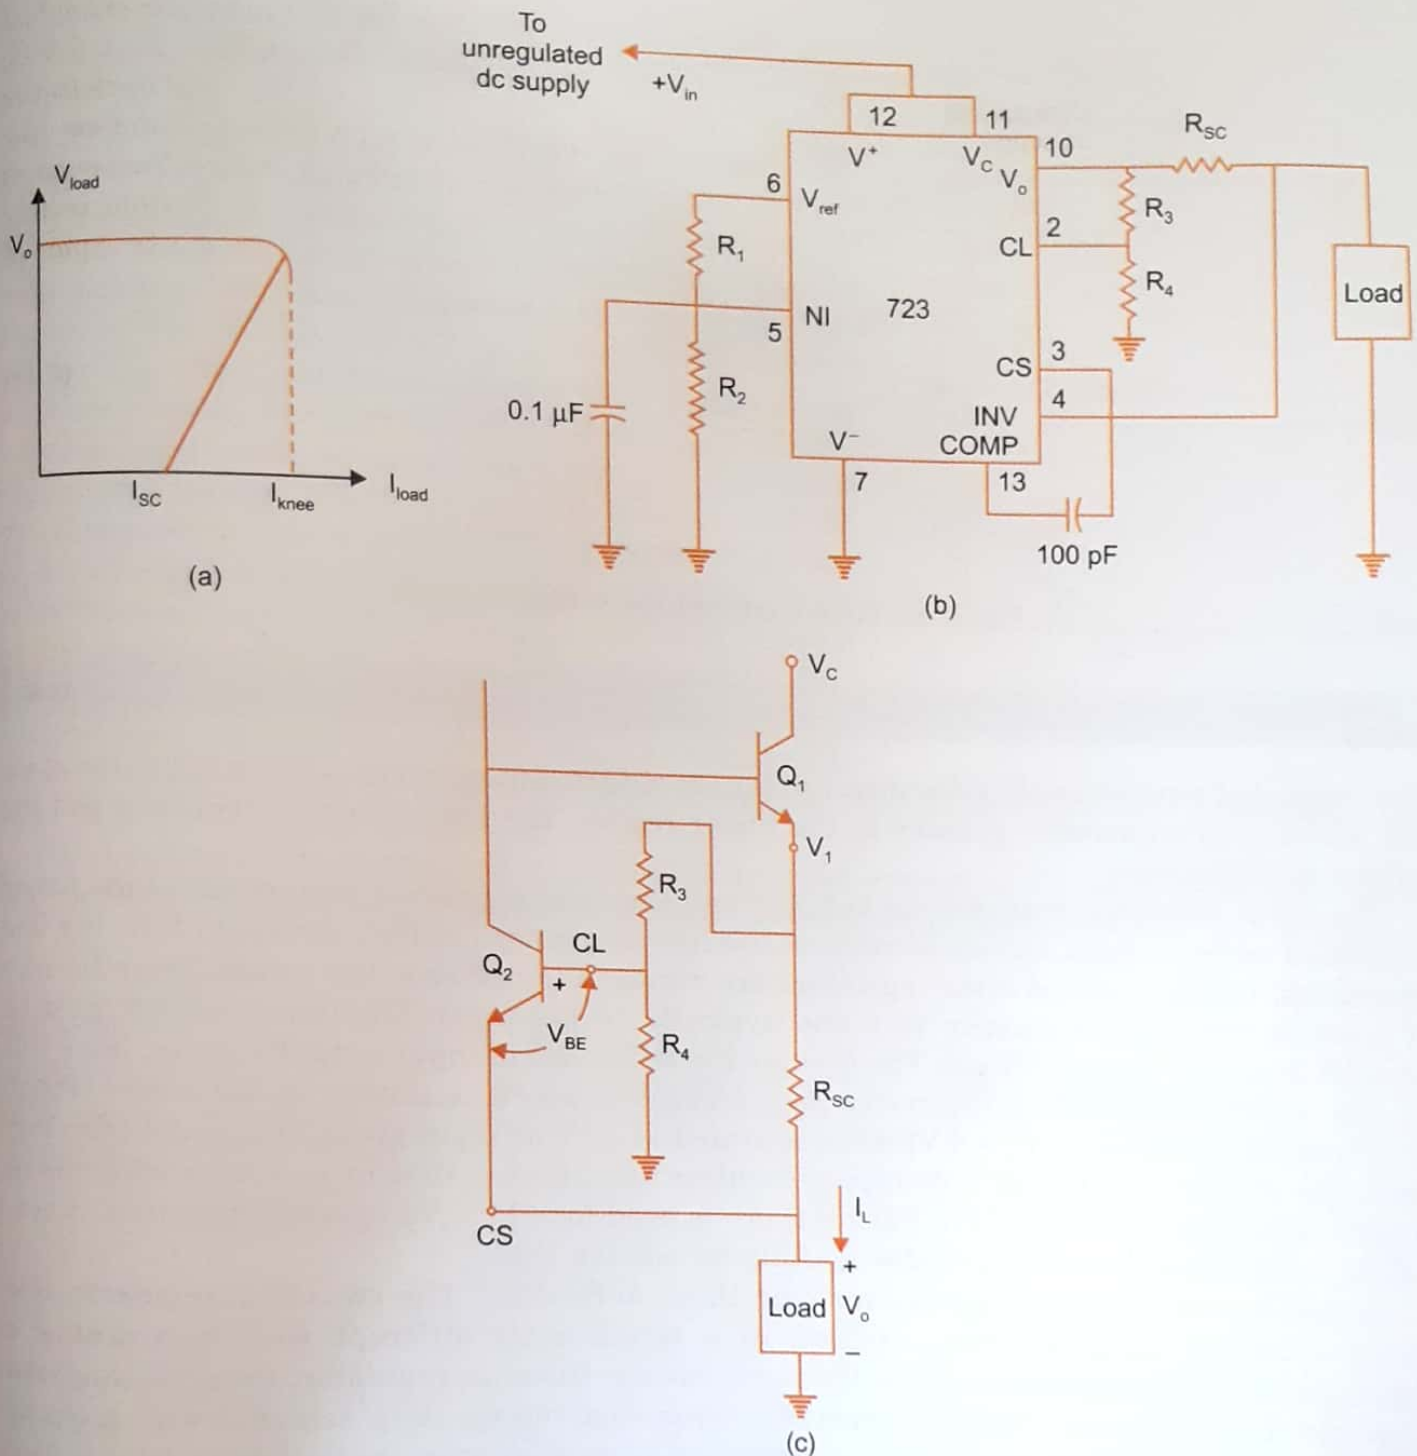
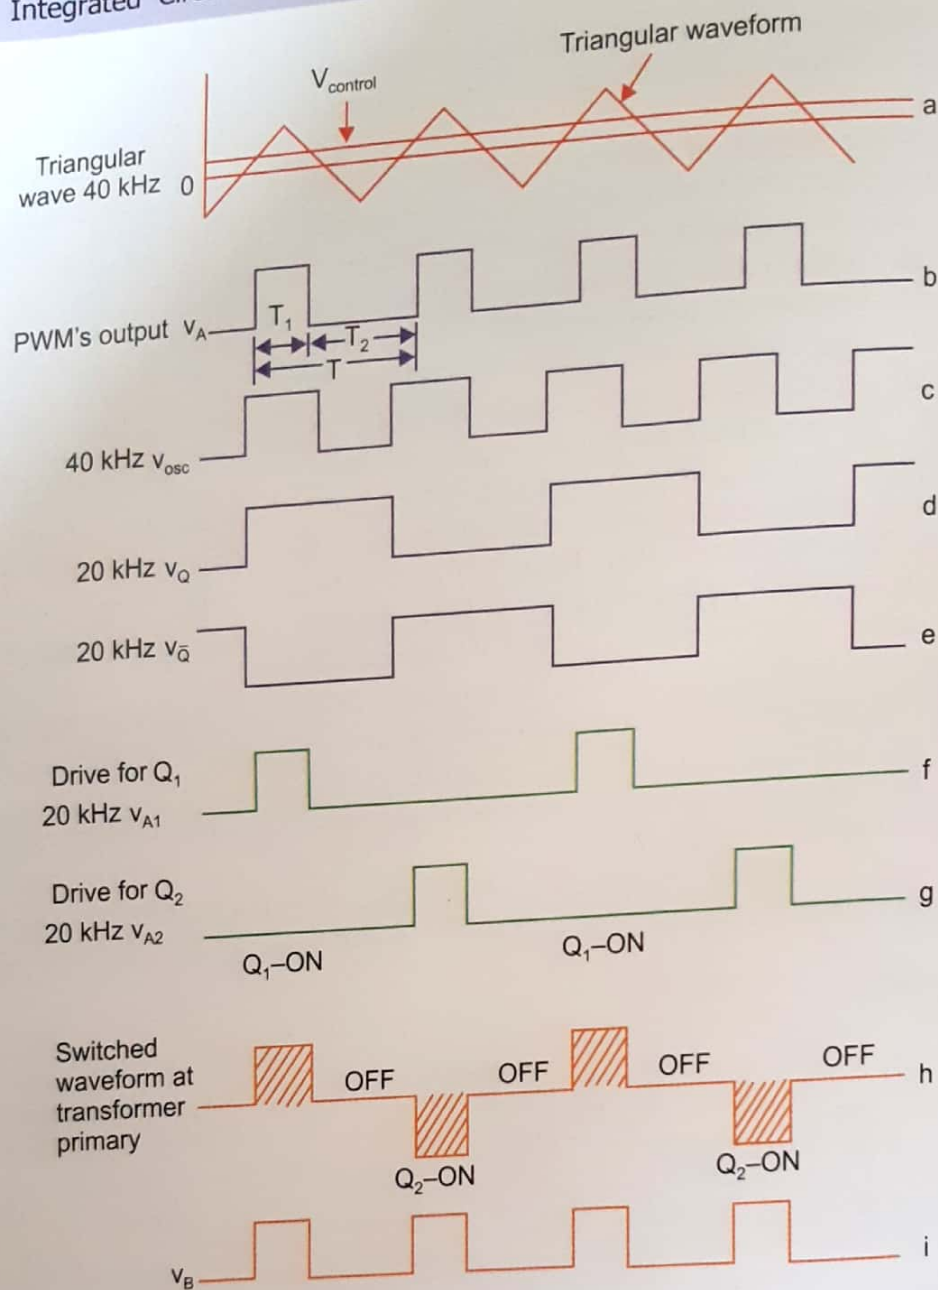

Fig. 6.10 (a) Current foldback characteristic curve (b) A low voltage regulator using current foldback (c) Current foldback (partial schematic)
Fig. 6.14 Switching power supply waveforms
Current foldback is the method used for this. Figure 6.10 (a) shows the current foldback characteristic curve. As current demand increases, the output voltage is held constant till a present current level (I_{knee}) is reached. If the current demand exceeds this level, both output voltage and output current decrease. The circuit in Fig. 6.10 (b) shows the method of applying current foldback. In order to understand the operation of the circuit, consider the circuit of Fig. 6.10 (c). The voltage at terminal CL is divided by R_3 – R_4 network. The current limit transistor Q_2 conducts only when the drop across the resistance R_{sc} is large enough to produce a base-emitter voltage of Q_2 to be at least 0.5 V. As Q_2 starts conducting, transistor Q_1 begins to turn off and the current I_L decreases. This reduces the voltage V_1 at the emitter of Q_1 and also the output voltage V_o . The voltage at the base of Q_2 (CL) will be $V_1 R_4 / (R_3 + R_4)$. Thus the voltage at the CL terminal drops by a smaller amount compared to the drop in voltage at CS terminal. This increases V_{BE} of Q_2 thereby increasing the conduction of Q_2 , which in turn reduces the conduction of Q_1 . That is, the current I_L further reduces. This process continues till $V_o = 0 \text{ V}$ and V_1 is just large enough to keep 0.5 V between CL and CS terminal. This point is I_{sc} and has been reduced by lowering both I_L and V_o .
$R_1/(R_1+R_2)$ is compared with a fixed reference voltage V_{ref} in comparator 1. The output of this voltage comparison amplifier is called $V_{control}$ and is shown in Fig. 6.14 (a). $V_{control}$ is applied to the (-) input terminal of comparator 2 and a triangular waveform of frequency 40 kHz (also shown in Fig. 6.14 (a)) is applied at the (+) input terminal. It may be noted that a high frequency triangular waveform is being used to reduce the ripple. The comparator 2 functions as a pulse width modulator and its output is a square wave v_A (Fig. 6.14 (b)) of period T ($= 40 \text{ kHz}$). The duty cycle of the square wave is $T_1/(T_1 + T_2)$ and varies with $V_{control}$ which in turn varies with the variation of v_o . The output v_A drives a steering logic circuit shown in the dashed block. It consists of a 40 kHz oscillator cascaded with a flip-flop to produce two complementary outputs v_Q and $v_{\bar{Q}}$ shown in Fig. 6.14 (d) and (e). The output v_{A1} and v_{A2} of AND gates A_1 and A_2 are shown in Fig. 6.10 (f) and (g). These waveforms are applied at the base of transistor Q_1 and Q_2 . Depending upon whether transistor Q_1 or Q_2 is *on*, the waveform at the input of the transformer will be a square wave as shown in Fig. 6.14 (h). The rectified output v_B is shown in Fig. 6.14 (i).
If there is a rise in dc output voltage V_o , the voltage control $V_{control}$ of the comparator 1 also rises. This changes the intersection of the $V_{control}$ with the triangular waveform and in this case decreases the time period T_1 in the waveform of Fig. 6.14 (b). This in turn decreases the pulse width of the waveform driving the main power transformer. Reduction in pulse width lowers the average value of the dc output V_o . Thus the initial rise in the dc output voltage V_o has been nullified.
So far we have discussed the operation of the SMPS. Now we shall be able to justify why SMPS has better efficiency than linear regulated power supply. We have noted that very high frequency signals (about 40 kHz or more) are being applied. The transistors Q_1 and Q_2 are acting as the switches and become alternately **on** and **off** at a frequency of 20 kHz (Fig. 6.14 (a)). Again the transistor Q_1 or Q_2 is **on** for very small duration and consumes negligibly small power since $V_{CE(sat)}$ (0.2 V) is small. It may also be noted that the high operating frequency used for the switching transistors allows the use of smaller transformers, capacitors and inductors. This allows a decrease in size and cost.